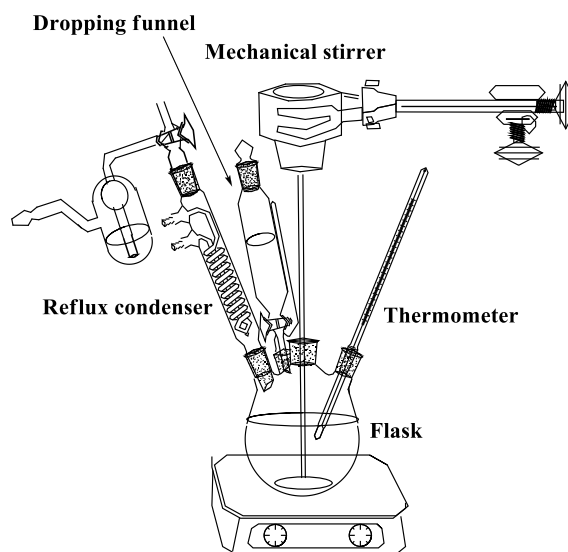

Figure 1. A transfer hydrogenation apparatus.
- (1) A dry, four-necked, round-bottomed flask equipped with a mechanical stirrer, a reflux condenser bearing an inert gas (argon or nitrogen) inlet tube, a thermometer and a dropping funnel is evacuated and filled with an inert gas (argon or nitrogen) three times. (Figure 1)
- (2) The catalyst is placed into the flask under an inert gas atmosphere and the evacuation/inert gas refill cycle is repeated three times. (Note 1)
- (3) The substrate and dry solvent (Note 2) are charged into the flask by syringes. (Note 3)
- (4) Triethylamine in a separate flask is cooled below 4°C in an ice bath and formic acid is added slowly under an inert gas atmosphere. (Note 4) (When the suitable ratio of formic acid and triethylamine is 5:2, please refer to “Preparation of Formic Acid-Triethylamine (5:2) Azeotrope” below.)
- (5) The mixture of formic acid and triethylamine is transferred into the dropping funnel of the flask by a syringe and then is added to the solution of substrate and catalyst dropwise (Note 5) at ambient temperature.
- (6) The reaction mixture is stirred at a specific temperature for a specific length of time.
- (7) The conversion and enantiomeric excess of the obtained product are determined by gas chromatography (GC) analysis or high-performance liquid chromatography (HPLC) analysis.